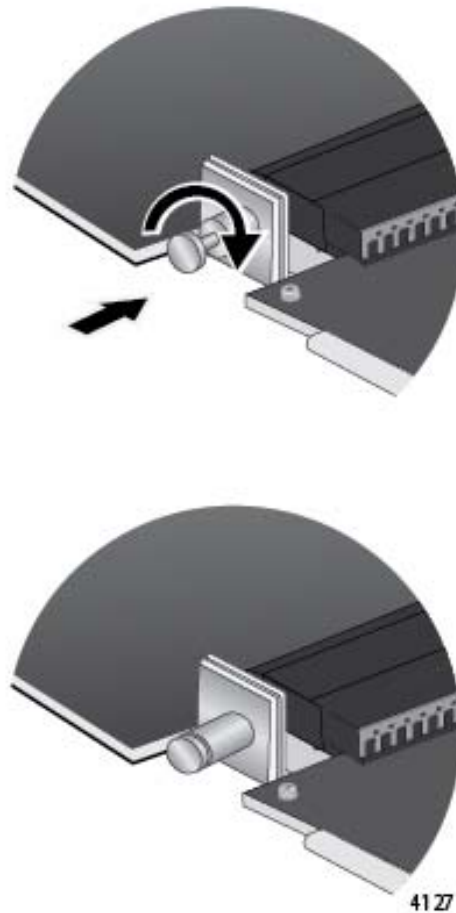

Figure 91. Releasing the Retaining Pin
11. Turn the retaining pin on the side of the line card one quarter turn to release it. Refer to Figure 91 on page 164.